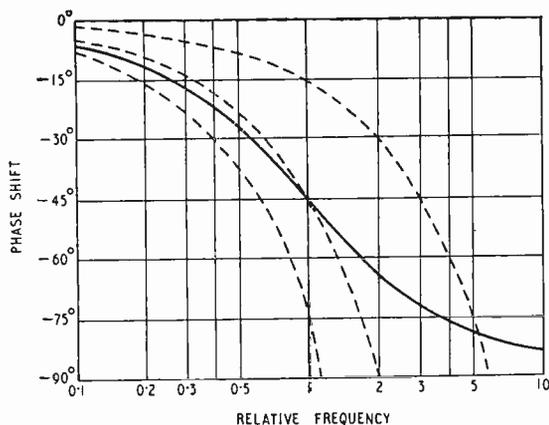

Fig. 7. To the actual phase-shift curve of Fig. 3 are added dotted curves all of which represent zero phase-frequency distortion.
Fig. 8. Whereas the actual phase-lag curve in Fig 7 causes hardly any phase distortion up to the high-frequency cut-off, the phase-lead down to and beyond low-frequency cut-off falls right across the no distortion lines, one of which is shown here.
that is flat is the one at 0°; all the others must indicate phase shifts *proportional to frequency*. If the shift at the reference frequency (1) is 45° as in Fig. 3, at twice the frequency it must be 90°; at four times, 180°; and so on. Such a curve does in fact follow Fig. 3 fairly closely up to 45° (Fig. 7) although beyond that it goes right off. So although the amount of a/f.d. up to that point, which is usually tolerated, is accompanied by a relatively large amount of phase *shift*, it is not a large amount of phase *distortion*. It looks as if p/f.d. is a negligible factor in the distortion of any waveform by a top-cut circuit having a turning frequency no lower than the highest significant frequency in the waveform; practically all the distortion is a/f.d. That does not, of course, mean that the phase shift of the waveform as a whole can always be ignored, but just that it does not appreciably affect the wave shape.
How does it actually work out? Fig. 11 shows what the oscilloscope reveals when tests are made under the conditions just described. Waveform (a) corresponds to Fig. 10(a), and (b) to 10(b). There is no doubt that the l.f. distortion (b), though under apparently much more favourable conditions, is more visible than the h.f. Which was more troublesome in practice would depend on whether the need was for a steep front or a flat top. In (a), the distortion is due mainly to the weakening of the harmonics, which reduces the steepness of the wave-front. As we saw in Fig. 7, there is very little relative phase shift except at frequencies which are barely represented in the output. In (b), on the other hand, a/f. distortion is almost negligible, and the pronounced tilting of the horizontal parts of the square wave is due almost entirely to the phase-shift of the fundamental relative to the harmonics. An approximation to it can be obtained by adding to a true square wave the difference between a sine wave starting at 0° and one starting at 11.3° , both of them having an amplitude $4/\pi$ times that of the square wave.